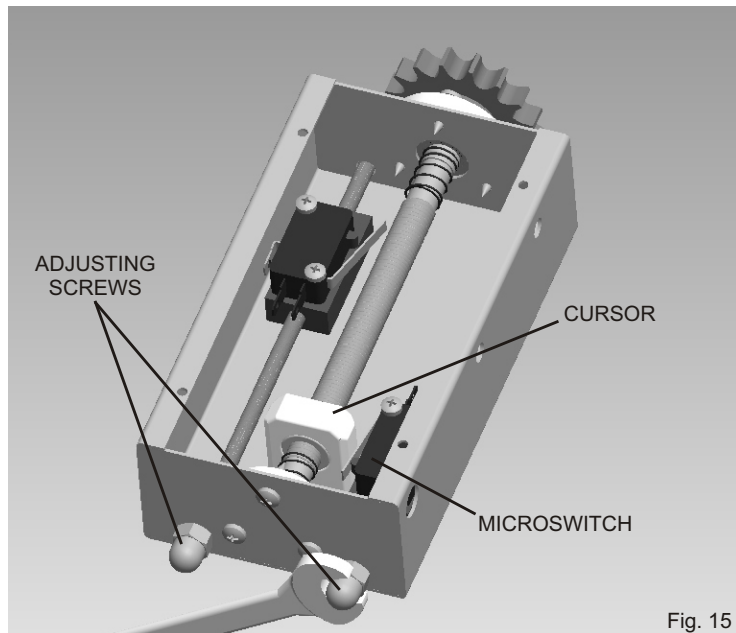

Fig. 15
- act on the adjusting screw so that the microswitch can activate the contact with the cursor (Fig. 15)